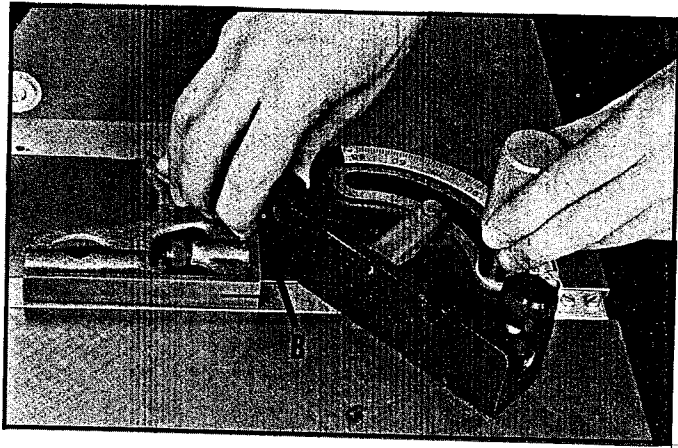
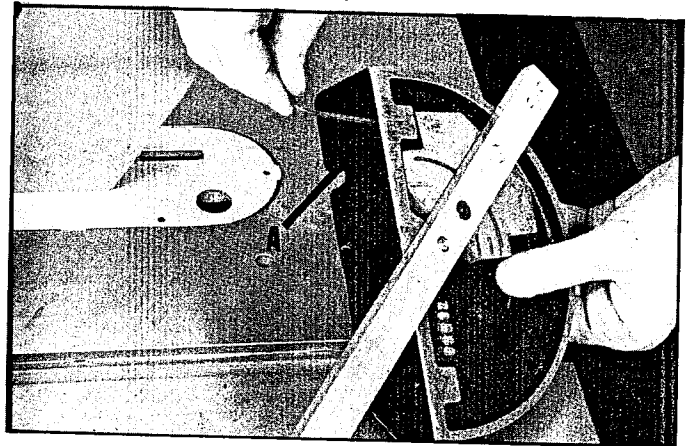

Fig. 54
Fig. 55
3. Positive stops are provided on the miter gage at the 90 and 45 degree right and left positions. To adjust the gage to a 45° angle, right or left, hold a square at a 45° angle against the bar and body (B) Fig. 54. After the amount of adjustment has been determined, remove the gage from the table with the base facing up, as shown in Fig. 55. Loosen lock screw (A) with allen wrench and turn adjusting hex head screw, located on the inside of the miter gage body directly in back of set screw (A) Fig. 55. After the hex head stop screw is adjusted correctly, tighten screw (A). The other 45° positive stop can be adjusted in the same manner.